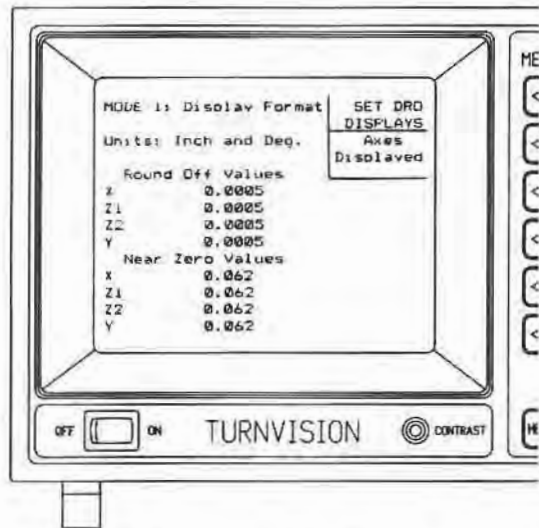

Figure 25. Setting DRO Display Modes.
- 6) To set the Round Off Values, use the arrow keys to highlight the axes desired and then use the "Finer" or "Coarser" menu key to select the value. The values are "mm" and "decimal degrees" or "inches" and "decimal degrees". Units are indicated at the top of the screen and can be changed by pressing the INCH/MM key. *The displayed resolution should never be set finer than the encoder resolution (Figure 25).*